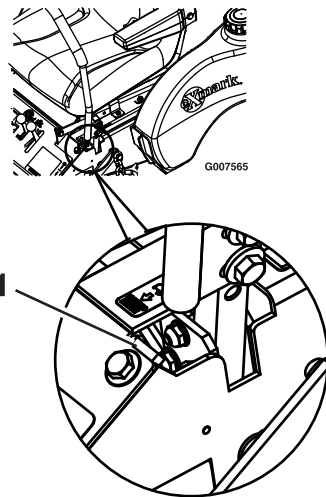

Figure 12
3. If the machine turns right or left when handles are pushed forward together, adjust the stop on the side opposite the direction of turn (see Figure 12). Move the stop back until the unit drives straight. Readjust handles if necessary.